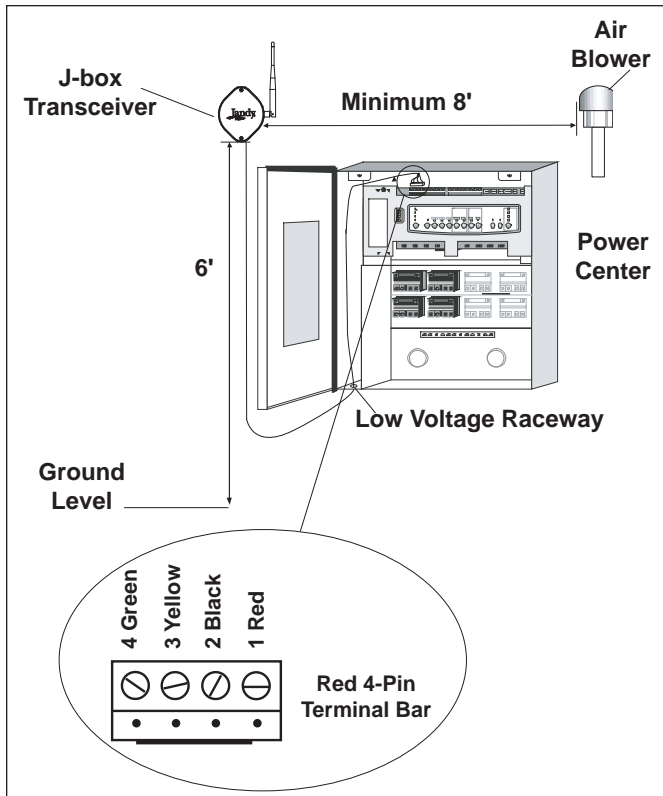

Figure 30. Outdoor Transceiver J-box Installation for Wireless OneTouch Control Panel
2. Mount the Outdoor Transceiver J-box at least 6' above the ground and at least 8' from an air blower (see Figure 30).